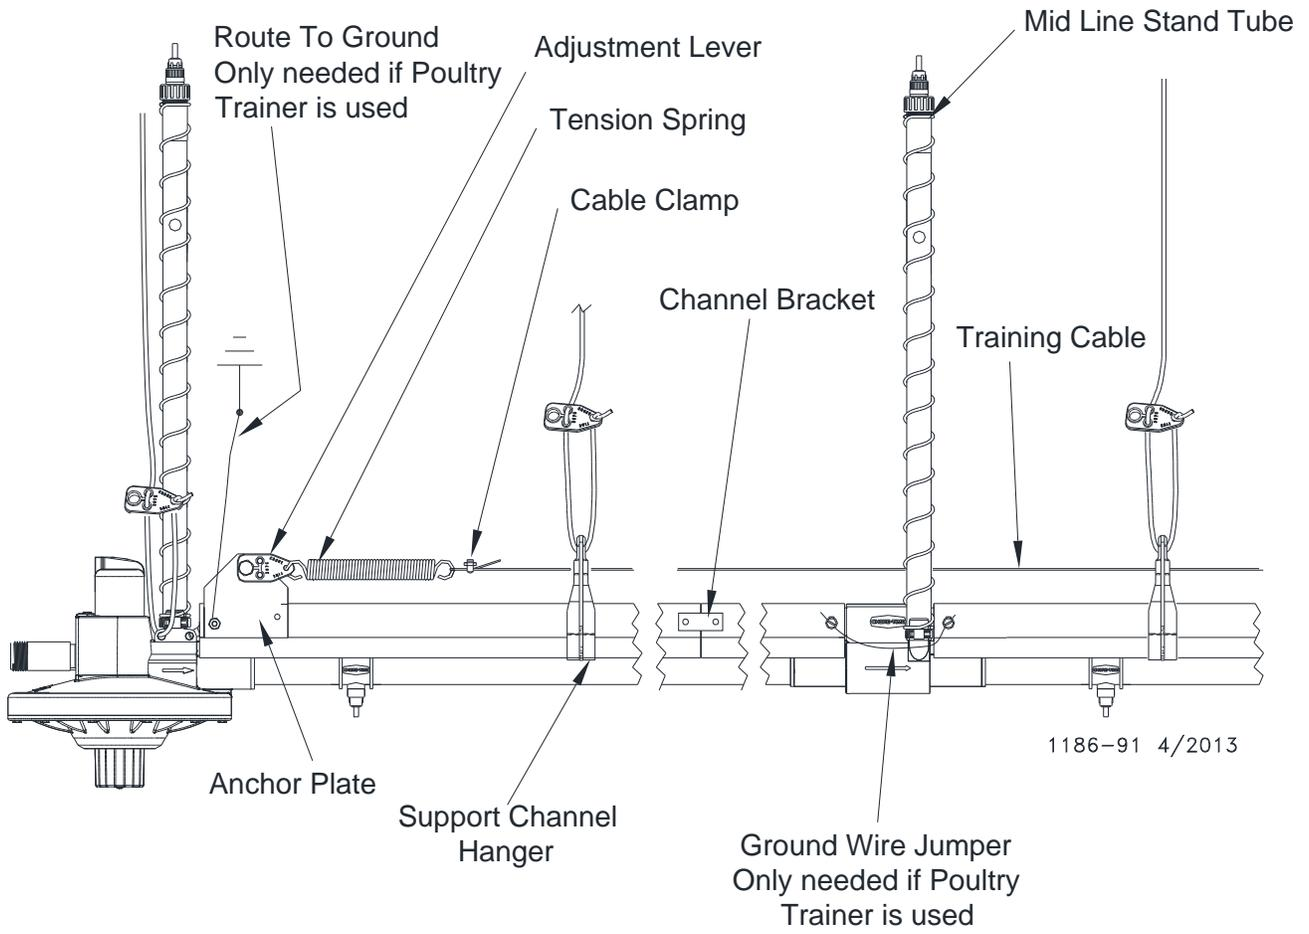

Figure 8. Anti-Roost Components
1. Make certain that an anchor plate with adjustment leveler is installed at the beginning and end of each anti-roost line. See **Figure 8**.
Note: Make sure that the support channel is attached to ground (to insure proper operation of the poultry trainer). See **Figure 8**.